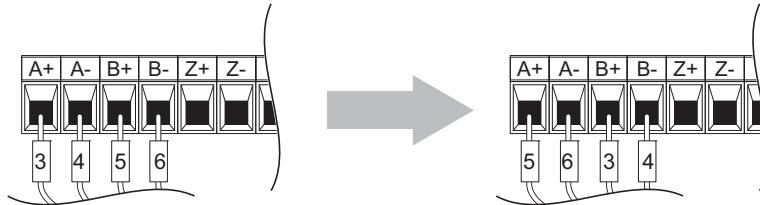

Figure 8.14 A Channel and B Channel Wire Switching
10. After connecting the PG encoder outputs to the option, apply power to the drive and manually rotate the motor and check the rotation direction by viewing monitor U1-05 on the digital operator. Reverse motor rotation is indicated by a negative value for U1-05; forward motor rotation is indicated by a positive value. If monitor U1-05 indicates that the forward direction is opposite of what is intended, set F1-05 to 1, or reverse the two A pulse wires with the two B pulse wires on option terminal TB1 as shown in **Figure 8.14**.